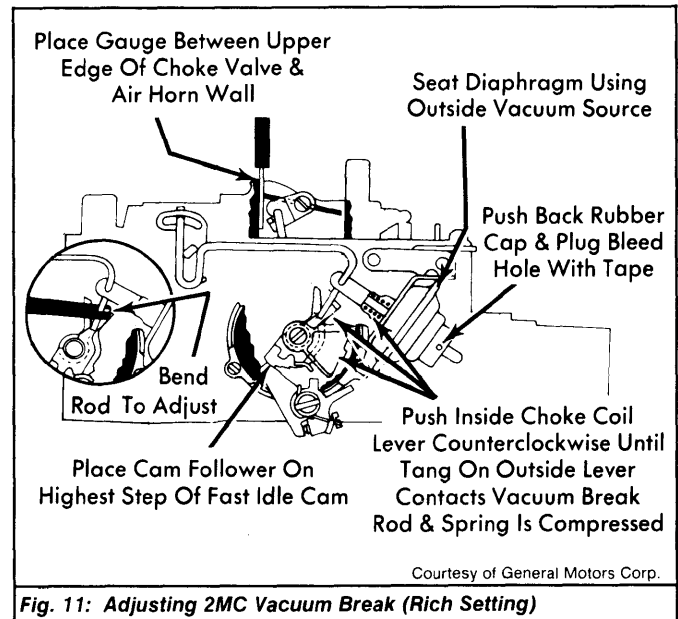

Fig. 11: Adjusting 2MC Vacuum Break (Rich Setting)
- 3) Ensure bucking spring is compressed. Insert specified gauge between upper edge of choke plate and air horn wall. If necessary, bend lower end of rod to adjust. See Fig. 11.